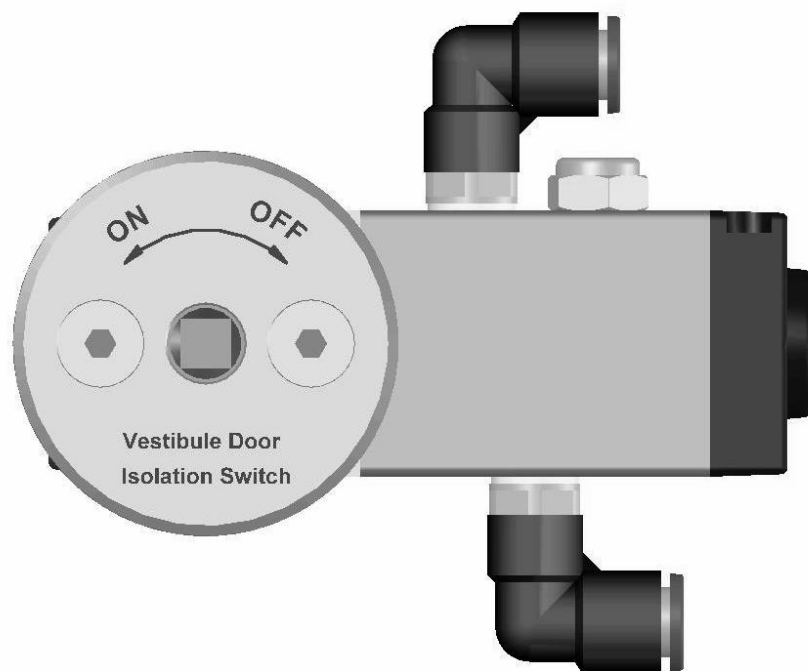

Figure 8: Vestibule Door Isolation Switch (FOD No.1 end only)
- 4.3 Place the door isolating switch in the 'OFF' position (see Figure 8).